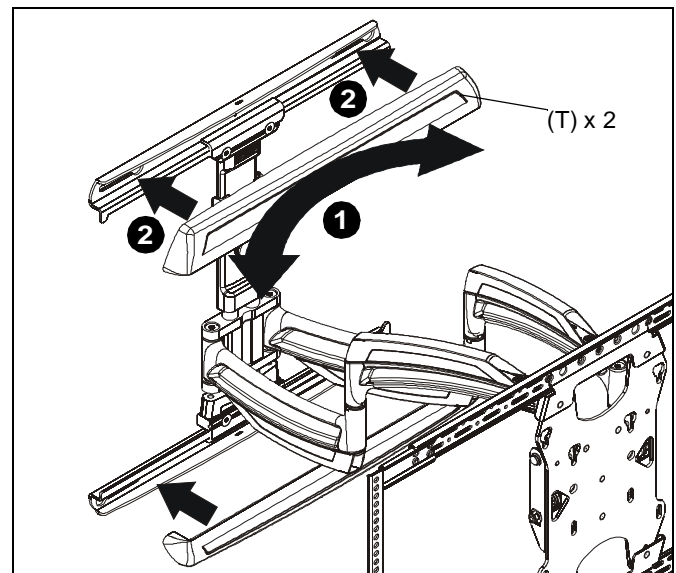

Figure 21
1. Turn wall cover (T) outward to allow outside of covers to wrap around wall rail. (See Figure 21)
2. Place wall cover (T) over wall rail. (See Figure 21)